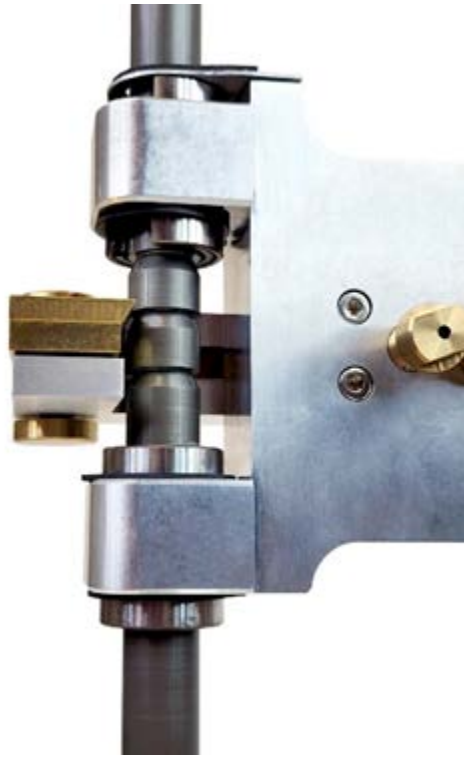

Figure 4: Release plate aligned with groove in drop rod
STEP 3. Unscrew the small thumb screw from the tweezer mount. Press and hold down the foot pedal (or squeeze the handbrake-style release) to draw back the rod release mechanism, then gently slide the rod down through the bearings until the release plate aligns with one of the grooves in the rod (see **Figure 4**, terminology used here defined in “GraVitri Plunge Cooler Series: User’s Manual v1.0”). Release the foot pedal (or handbrake-style release) and the rod will be retained in place. Re-insert the previously removed thumb screw once the rod is in place.